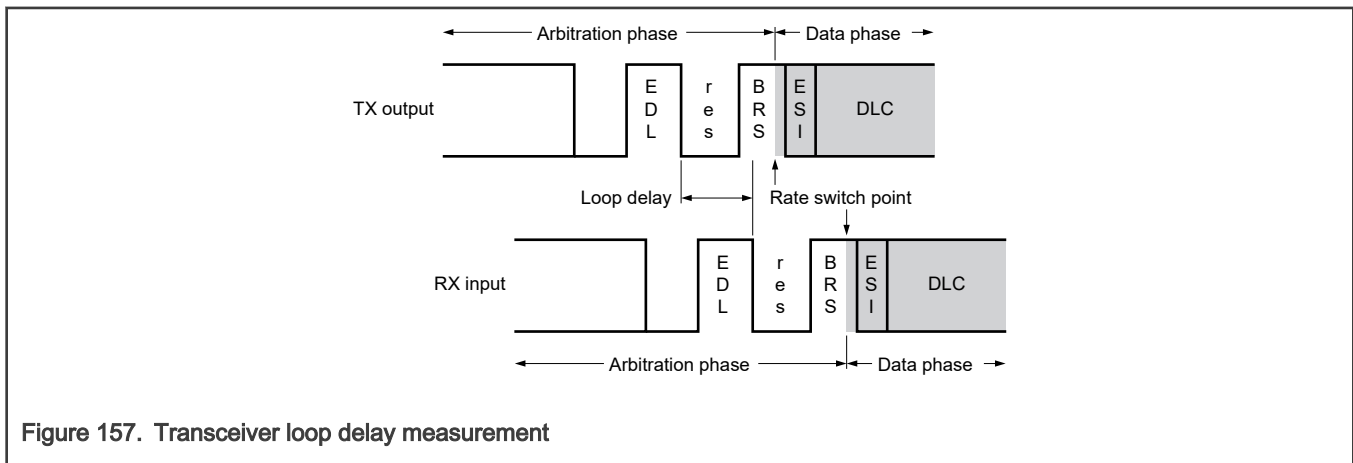

Figure 157. Transceiver loop delay measurement
For every transmitted FD frame with BRS = 1, the transition from the recessive EDL bit to the dominant R0 bit triggers the delay measurement (as shown in Figure 157). The loop delay is measured in Protocol Engine (PE) clock periods (CANCLK, see Protocol timing), from the transmitted EDL-R0 edge to the received EDL-R0 edge. The measured loop delay time added to an offset value specified in [FDCTRL\[TDCOFF\]](#) or [ETDC\[ETDCOFF\]](#) determines the position of the secondary sample point. [FDCTRL\[TDCVAL\]](#) or [ETDC\[ETDCVAL\]](#) stores the result of this calculation. The TDCVAL and ETDCVAL value saturates at its maximum value of 63 CANCLK and 255 CANCLK when the delay measurement is too long.